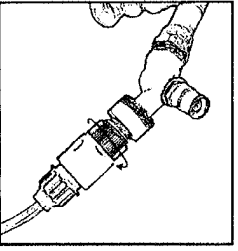
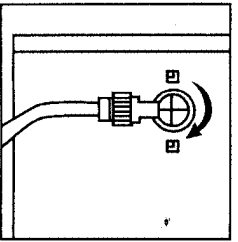
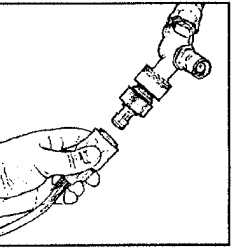

Fig. 1
Fig. 2
Fig. 3
1. **Water Line Supply** - Use the water hose to connect to your household water supply (Fig. 1). If assistance is required, please contact a certified plumber. Connect the water hose to a water faucet and screw the other end of the water hose clockwise into the water line plug (Fig. 2). To disconnect the water hose from the water spigot, first make sure the water line is turned off and simply pull back the release washer of the connector and pull apart (Fig. 3). To unscrew the water line from the unit, simply turn counterclockwise on the water line connector (Fig. 4).
4. On the back of the unit, press the Self Clean Button (Fig. 1). The unit will automatically enter into self-clean mode and the green clean light will illuminate.
To replace the fuse, turn the fuse knob (Fig. 1) counter-clockwise and pull out the damaged fuse. Insert the new fuse with the silver tip pointing into the knob (either tip will work). Replace the fuse knob in place and secure by turning the knob clockwise.